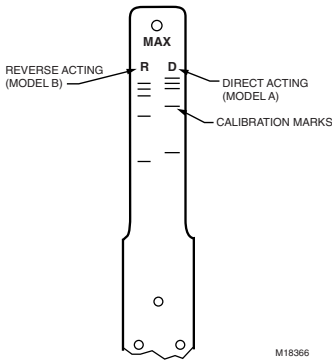

Fig. 10. Throttling range lever (models A and B).
The throttling range is factory set at 10°F (6°C) and does not require readjustment for most applications. The throttling range lever is accessible after removing the front cover plate. See Fig. 10.
- Check the setpoint calibration. See Fig. 10.